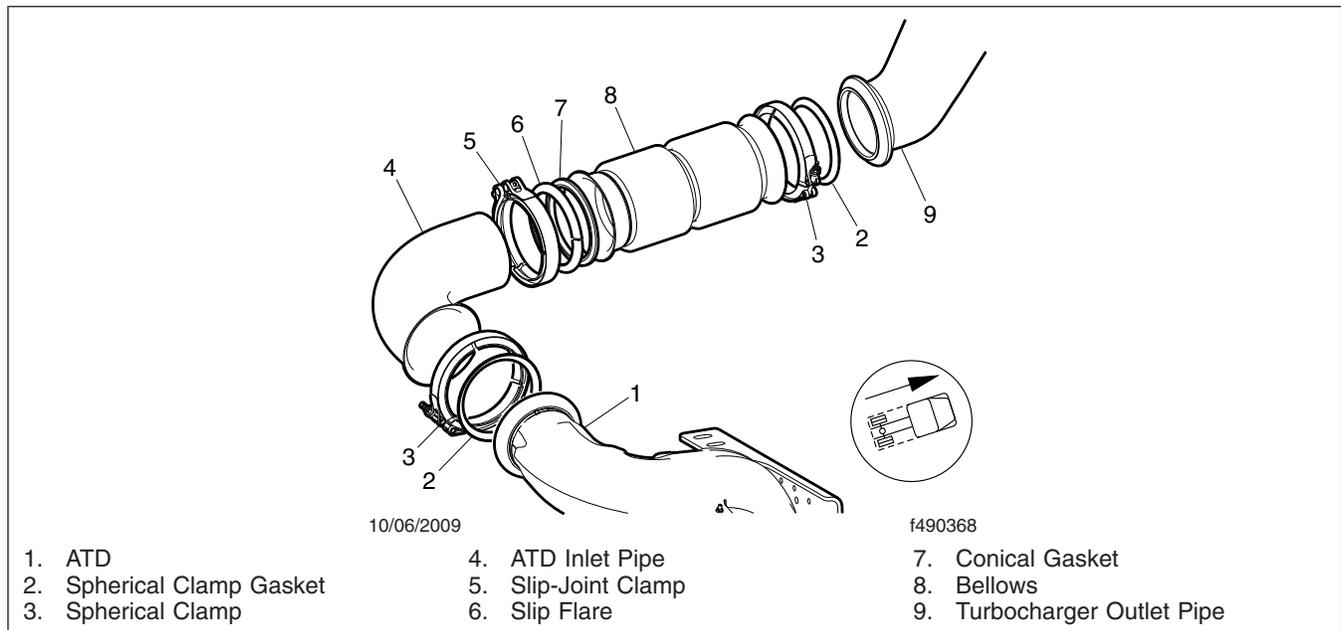

Fig. 14, Exhaust Pipe Installation
- 19.2 Fit the slip-joint clamp (5), flare (6), and compression gasket (7) onto the ATD inlet pipe in the order shown in the fig. 14.